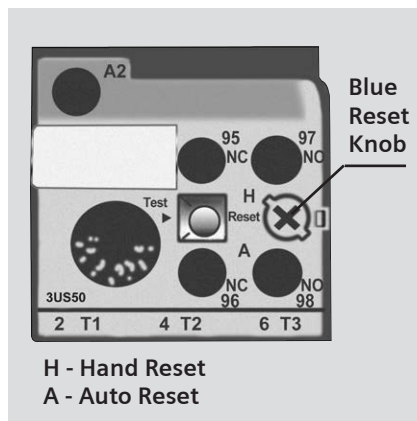

Fig. 9 Relay front view
- In case you want the starter to be in 'Self Reset' mode, the blue knob on relay (fig. 9) is to be pressed and rotated in anticlockwise direction; so that it comes in position 'A', and its edge